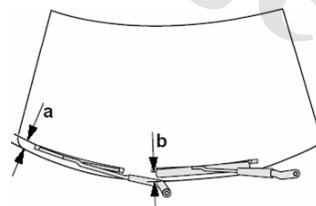

Fig. 4-93
2. Layout of main wiper blade Fig. 4-93